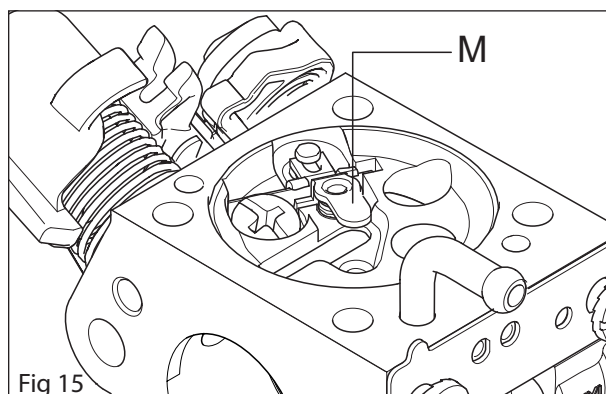

Fig 15
6. Check that the lever arm (M) is 0.05-0.25 mm under the plane of the gasket surface using a ruler or the like. If necessary, the lever arm can be bent. See figure 15.